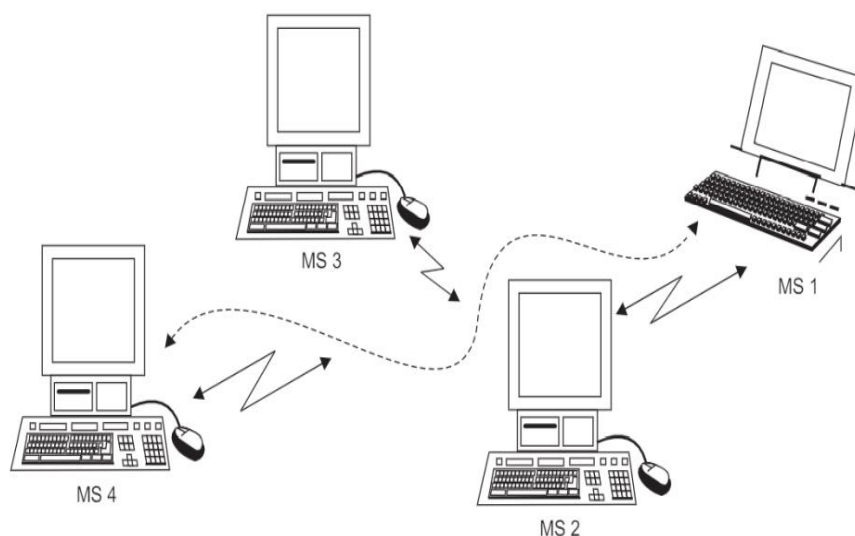

Fig 5.5 Multi hop ad-hoc network.
- In this situation, user terminals will have to cooperate in carrying messages across the network between widely separated stations. These networks are called multi hop ad-hoc networks as shown in Fig 5.5.